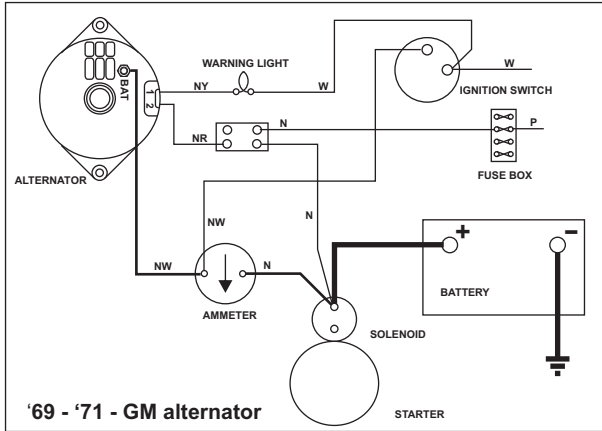

FIGURE 7
FIVE WIRE MODIFICATIONS: Refer to **figures 7 and 8**, next page, Discard the short Brown/Yellow wire, as above. Cut off the terminals from the remaining Brown/Yellow wire, and from both the Brown/White, and the Brown/Red (Brown for '72) wires. Connect the Brown/Yellow wire to the lead coming from position (1) of the plug and Connect the small Brown/Red (Brown for '72) wire to the other terminal, (2). Connect the large Brown/White wire to the screw terminal. Insert the plug,